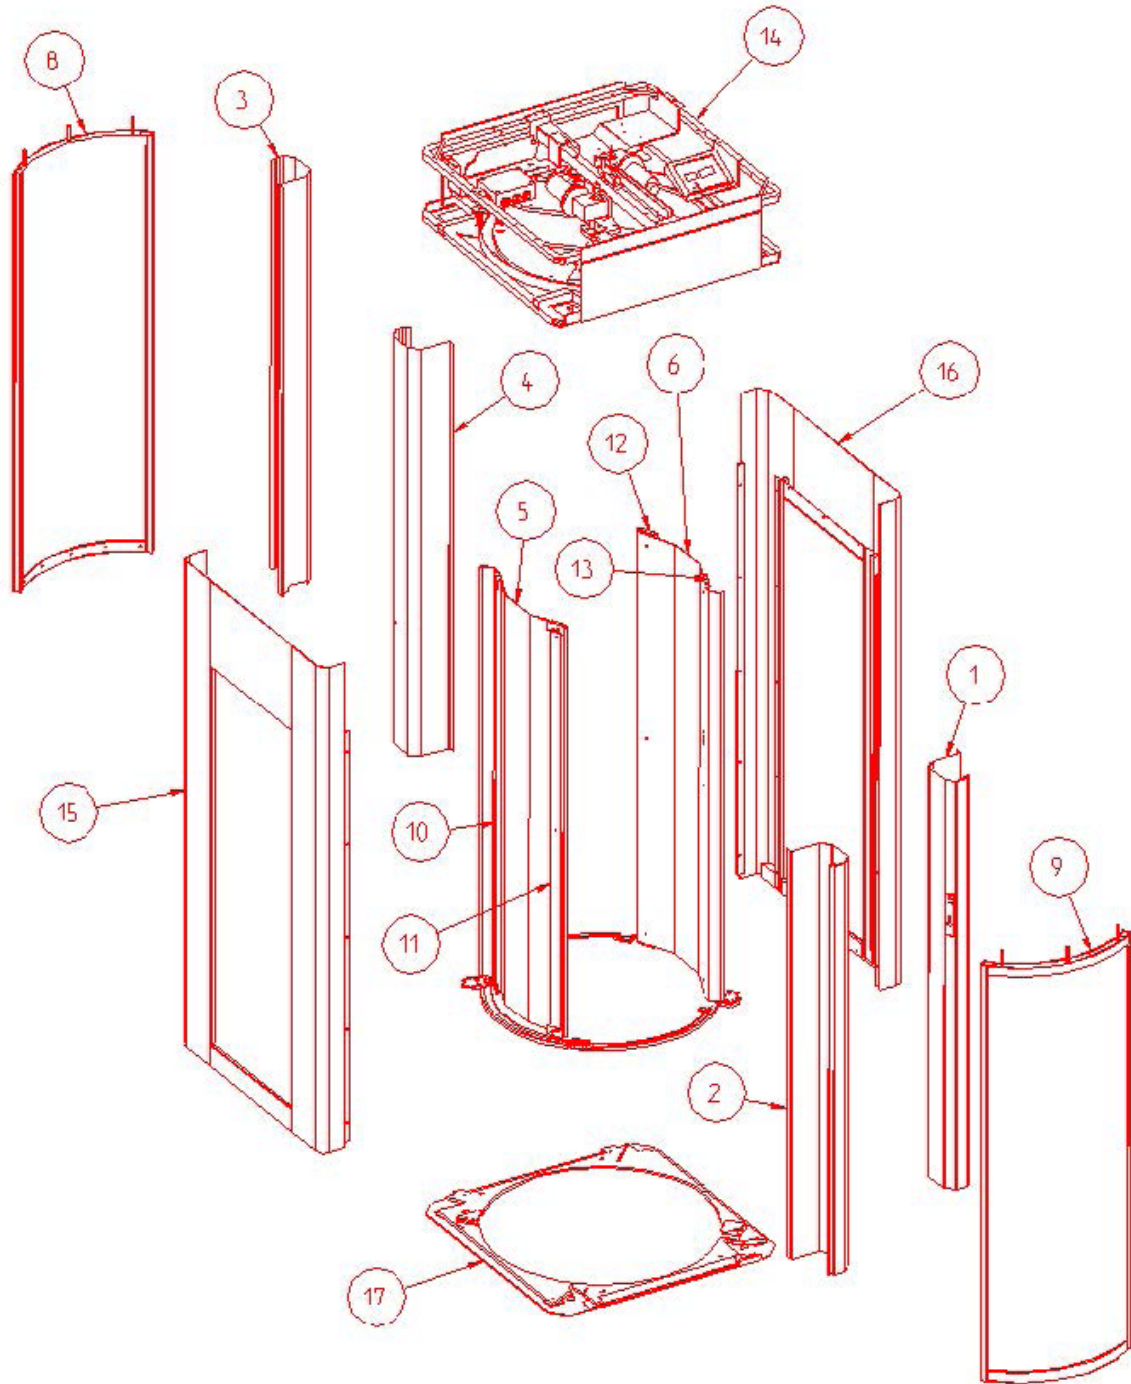

Fig. 24 - Exploded view
1. Disassemble the panels, details 1-2-3-4, (⇒ Fig. 24), by unscrewing the screws frontally placed under the magnetic strip.
2. Disassemble both the internal small walls, details 5 and 6, (⇒ Fig. 24).
4. Remove the doors, details **8** and **9**, (⇒ Fig. 24).
5. Unscrew the piles upper screws of the internal cylinder, details **10-11-12-13**, (⇒ Fig. 24).
8. Take the upper frame out, detail **14**, (⇒ Fig. 24).
9. Disassemble the piles of the internal cylinder, details **10-11-12-13**, (⇒ Fig. 24), by unscrewing the lower screws.
10. Disassemble the 2 lateral walls, details **15** and **16**, (⇒ Fig. 24), after having unscrewing the lower screws of the angles, which are marked with **G**, and the lateral ones pointed out with **H** as shown in Fig. 28.
In case of need, it is possible to disassemble the glass lateral walls, details **15** and **16**, (⇒ Fig. 24), after having removed the 4 glazing beads marked with **L** (and pointed out in Fig. 28).
The horizontal position allows an easier assembling of the upper frame, detail 14, Fig. 24.
1. Place the basement, detail 17, Fig. 24.
2. Place and fix the 2 lateral walls, detail 15 and 16, Fig. 24.
3. Put and fix the upper frame, detail 14 Fig. 24.
4. Assemble the glasses again in the lateral walls if they were disassembled, details 15 and 16, Fig. 24.
5. Put the piles in the basement and fix them, details 10-11-12-13, Fig. 24.
6. Place again the doors in their housing and fix them, details 8 and 9, Fig. 24.
8. Reassemble the 2 internal small walls, detail 5 and 6, Fig. 24.
9. Reassemble the panels, details 1-2-3-4, Fig. 24.